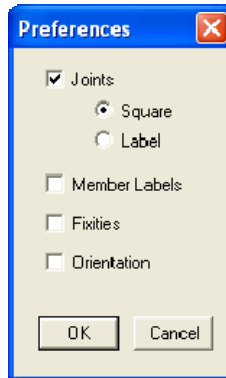

Figure 3-48 Preferences dialog box
- From the Show menu, select Preferences. The dialog box of Figure 3-48 appears.